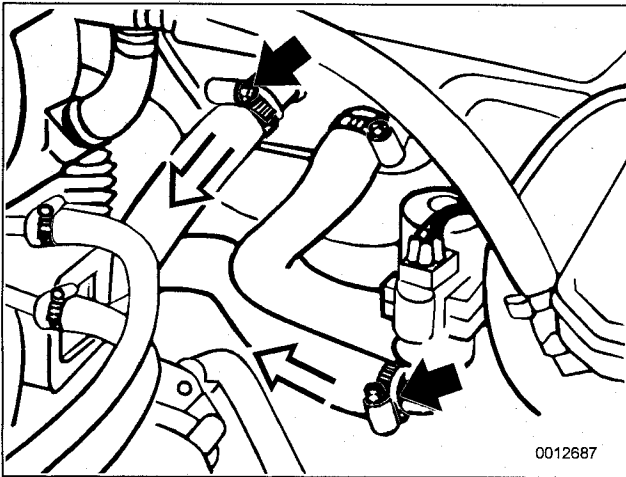

Fig. 9. Coolant hoses at heater valve and heater core to be disconnected (arrows).
- Disconnect heater hoses at rear of engine. See Fig. 9.